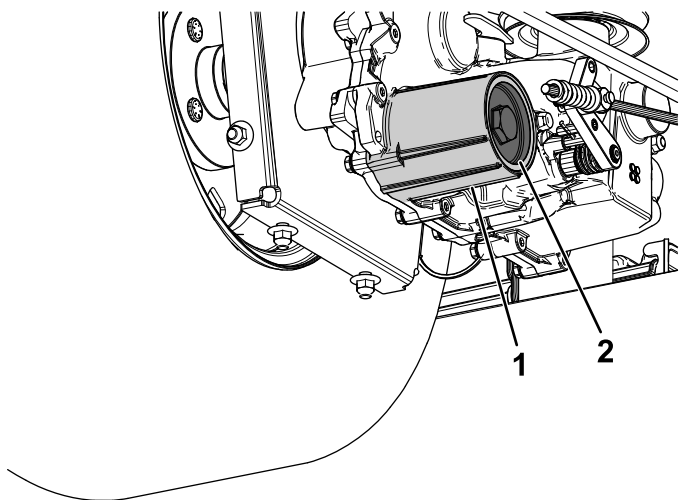

Figure 94
7. Remove the hydraulic-fluid filter cover from the transaxle to drain the fluid (Figure 94).